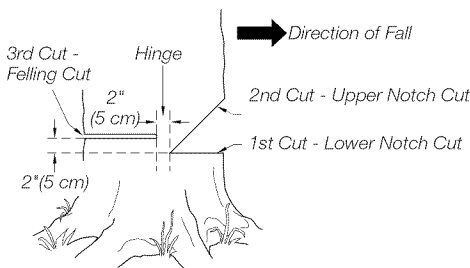

Figure 8 - Felling A Tree
A properly placed felling notch will determine direction tree will fall. Place felling notch on side of tree in direction you want tree to fall (see Figure 8). Follow directions below to create a felling notch.
- Make lower notch cut as close to ground as possible. Hold saw so guide bar is horizontal. Cut 1/3 the diameter of tree trunk (see Figure 8). **Note:** Always make this horizontal lower notch cut first. If you make this cut second, tree can pinch chain or guide bar.
**Example:** If lower notch cut is eight inches deep, start upper notch cut eight inches above it. Cut downward at 45° angle. The upper notch cut should meet end of lower notch cut (see Figure 8).
- Make felling cut two inches higher than lower notch cut and on opposite side of tree (see Figure 8). Keep felling cut parallel to lower notch cut.
**⚠ WARNING: Do not cut all the way through tree. Leave about two inches of tree diameter uncut directly behind felling notch (see Figure 8). This uncut portion acts as a hinge. The hinge helps keep tree from twisting and falling in wrong direction.**